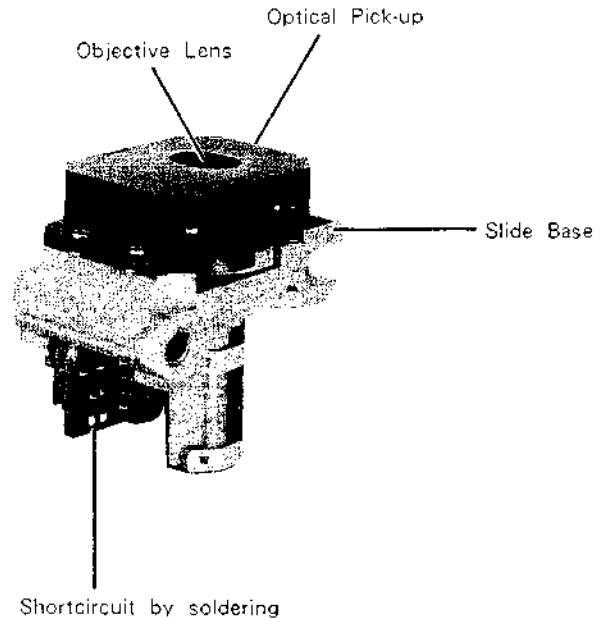

Figure 7
- ① Perform repair with ground ring on the hands and a conductive gum mat.
- ② Grasp the slide base when handling.
- ③ When removing the pick-up arm shortcircuit by soldering as shown in the Figure 7 below and then remove the connector.
- ④ When mounting the pick-up arm, after inserting the connector, remove the soldered shortcircuiting.